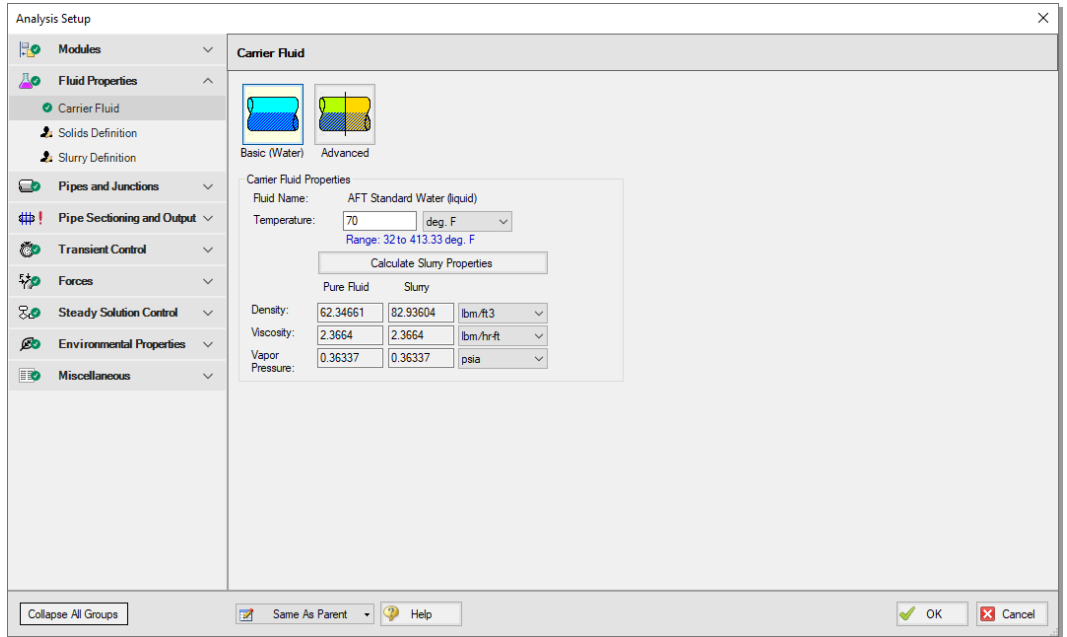

Figure 6.1 Carrier Fluid panel
1. Go to the Carrier Fluid panel (Figure 6.1)